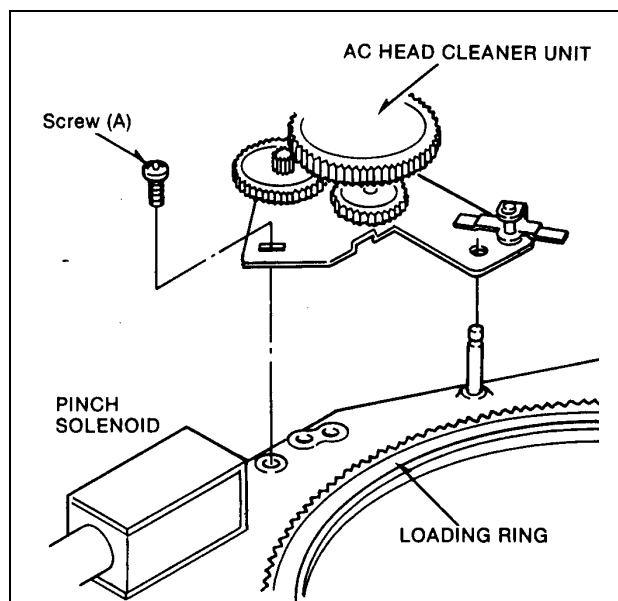

Figure 7-29-2
1. Insert A/C head cleaner unit in the Mechanical chassis unit as shown in Figure 7-29-2.